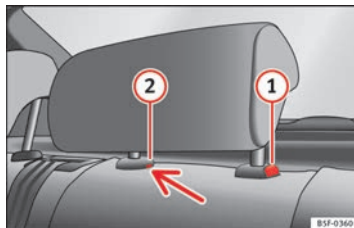

Fig. 84 Rear centre head restraint: release point.
- To set the head restraint lower down, press the ① ⇒ Fig. 84 button and move it downwards.
- Press the ① ⇒ Fig. 84 button while at the same time removing the head restraint from the backrest ⇒ ⚠. ►
- Insert a screwdriver in the ② ⇒ Fig. 84 position of the hole while at the same time removing the head restraint from the backrest ⇒ ⚠.